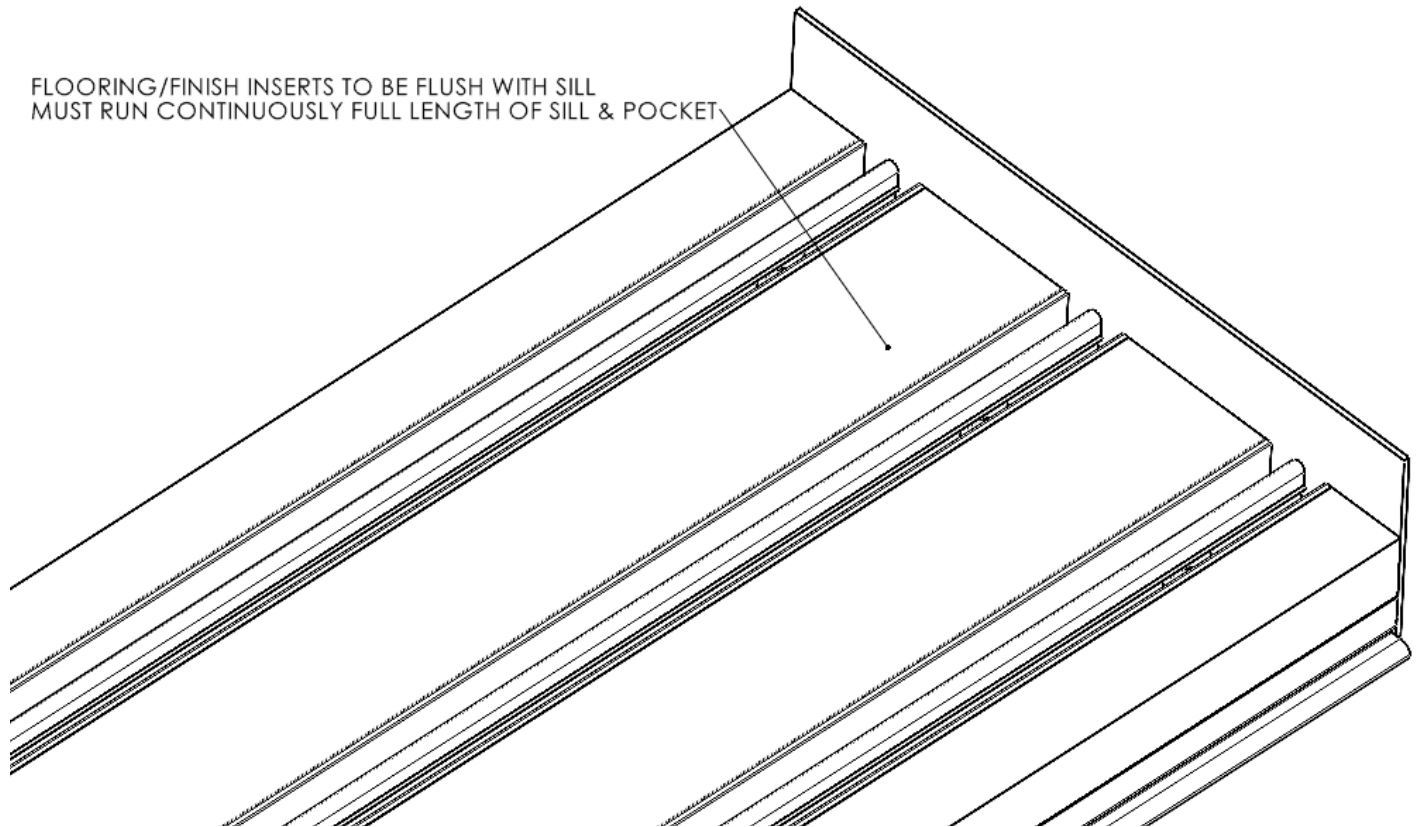

Figure 8
- No water management (sill with no weeps or drain fitting) (See **Figure 8**).
NOTE: Sill types with limited water rating, no water rating, or no water management should only be used in well-protected areas where a roof overhang will prevent driving rain and the exterior finish grade is stepped down and/or sloped away from the sill to help prevent water penetration. See Figure 8. Proceed to Step 10.